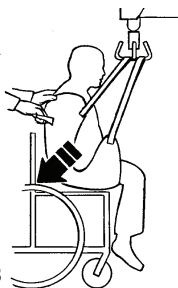

Fig. 18
6. With one (1) attendant behind the chair and the other operating the patient lift, the attendant behind the chair will pull back on the handle or sides of the sling to place the patient into the back of the chair. This will maintain a good center of balance and prevent the chair from tipping forward. See Fig. 18 & 19.